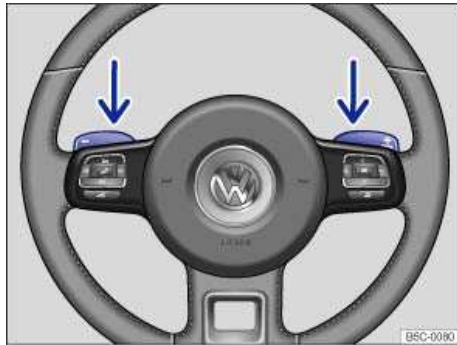

Fig. 120 Steering wheel with optional Tiptronic shift paddles.
- The paddles ⇒ fig. 120 (arrows) work when the selector lever is in the Tiptronic position or when the selector lever is in Drive (**D**) or Sport Drive (**S**). You do not have to move the selector lever over to the right into the Tiptronic position.